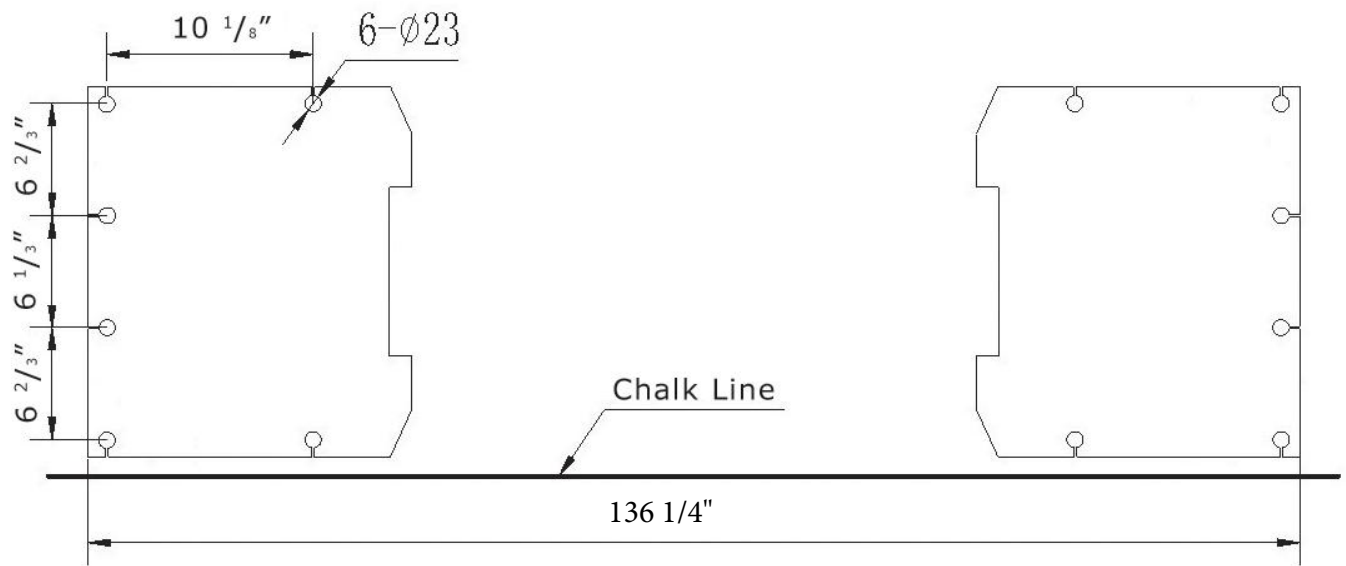

Fig. 4 Model W-9F
B. Use a carpenter's chalk line to establish installation layout of lift (See Fig.4).